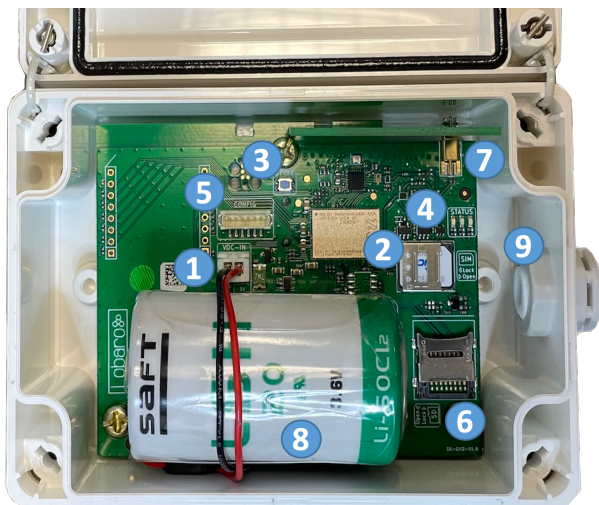

Figure 1: Device components
The associated battery is equipped with loop tape, which is to be attached to the velcro hooks of the device at position (8) when inserting it. Make sure that the connecting cable of the battery is routed around the battery body as shown in Fig.1. Then connect the plug connector of the battery to the reverse polarity protected socket at position (1).